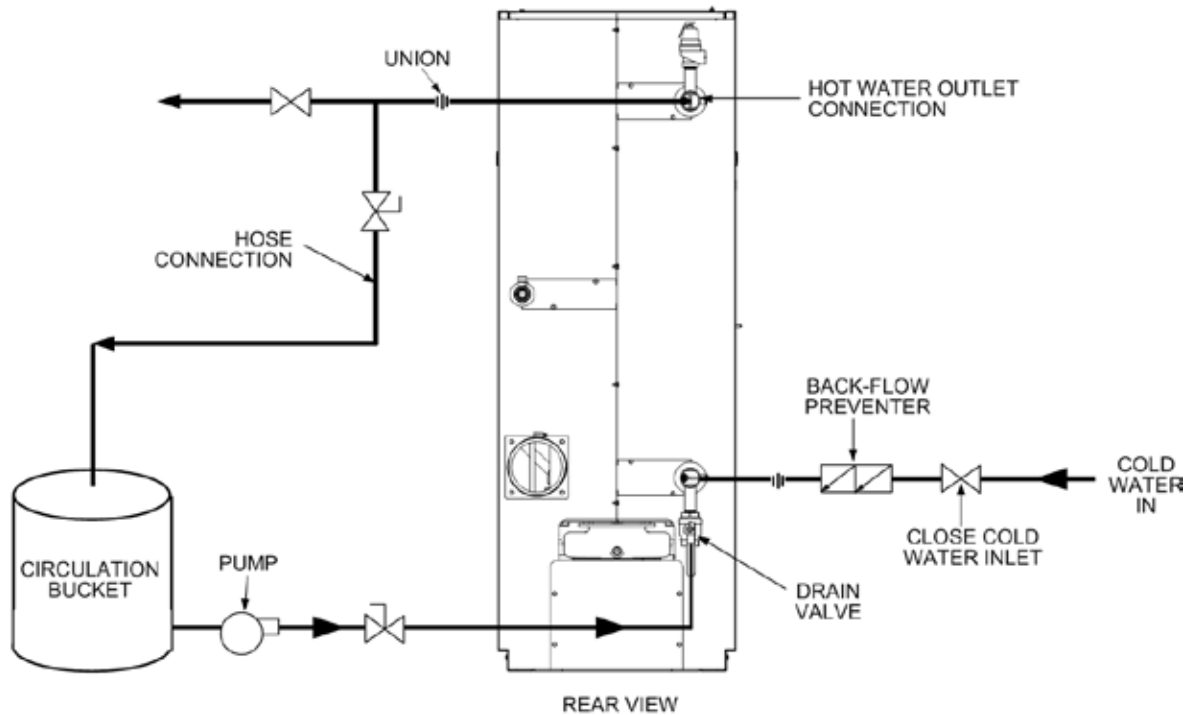

Figure 6-8. Sample Heat Exchanger Cleaning Set-Up
A sample pumping set-up diagram is shown in Figure 6-8 for an Innovation Water Heater. As this diagram shows, heat exchanger cleaning is accomplished by pumping the HydroSkrub solution from a large circulating bucket to the heat exchanger drain valve, through the heat exchanger and then out through the output connection of the heater. Set up the pumping system as follows:
5. Close the unit drain valve and connect a suitable size bucket and pump to the unit drain as shown in Figure 6-8.
6. Install a "T", ball valve and hose connection in the outlet piping of the heater (Figure 6-8). Route the hose back to the top of the circulation bucket.